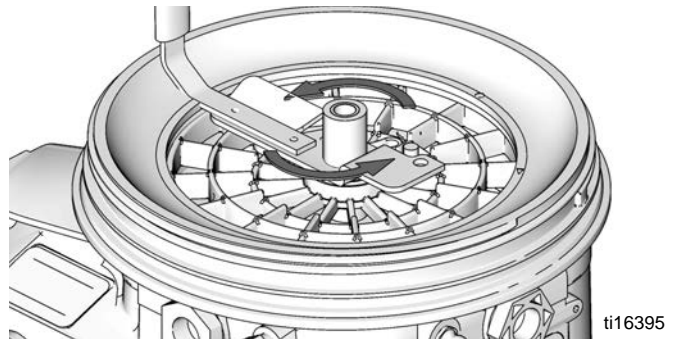

FIG. 15
7. Install stirring paddle (16) in base of G3. Turn paddle **counter-clockwise** until it is tightened securely in place (FIG. 15). (Illustration does NOT show low level paddle.)
NOTE: If a low level paddle (23) is installed, to prevent damage, hold low level paddle in its full out position while installing stirring paddle (16) (FIG. 15).